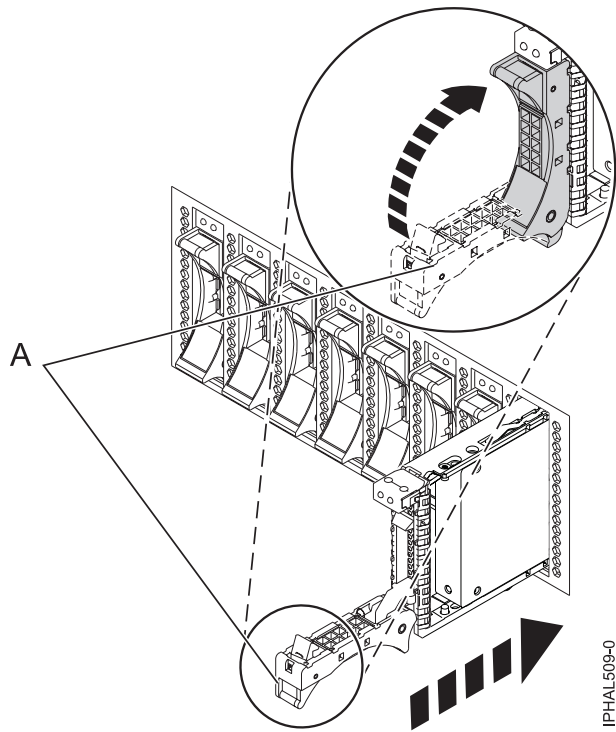

Figure 1. Installing the disk drive in the system
7. When the identify LED turns on solid, slide the drive all the way into the system or an expansion unit, and push the drive handle in until it locks. See Figure 1 on page 7 showing installing a drive in